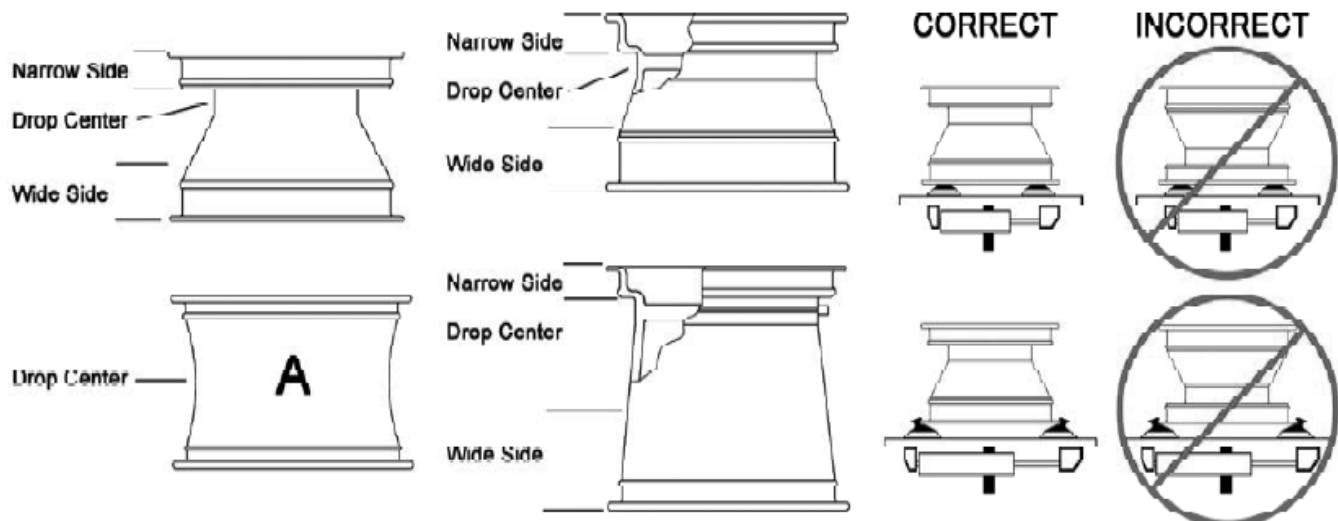

Figure 3 - Position Tire and Bead Loosener Shoe
2. Pull the bead loosener shoe away from the machine and roll wheel into position. The valve stem should be in the 2 o'clock position to accommodate a possible asymmetric safety hump type rim. Position the bead loosener shoe against the tire next to, but not on, the rim. Press the bead loosener foot pedal to actuate the shoe and loosen the bead. It may be necessary to loosen the bead in multiple locations around the tire (figure 3).